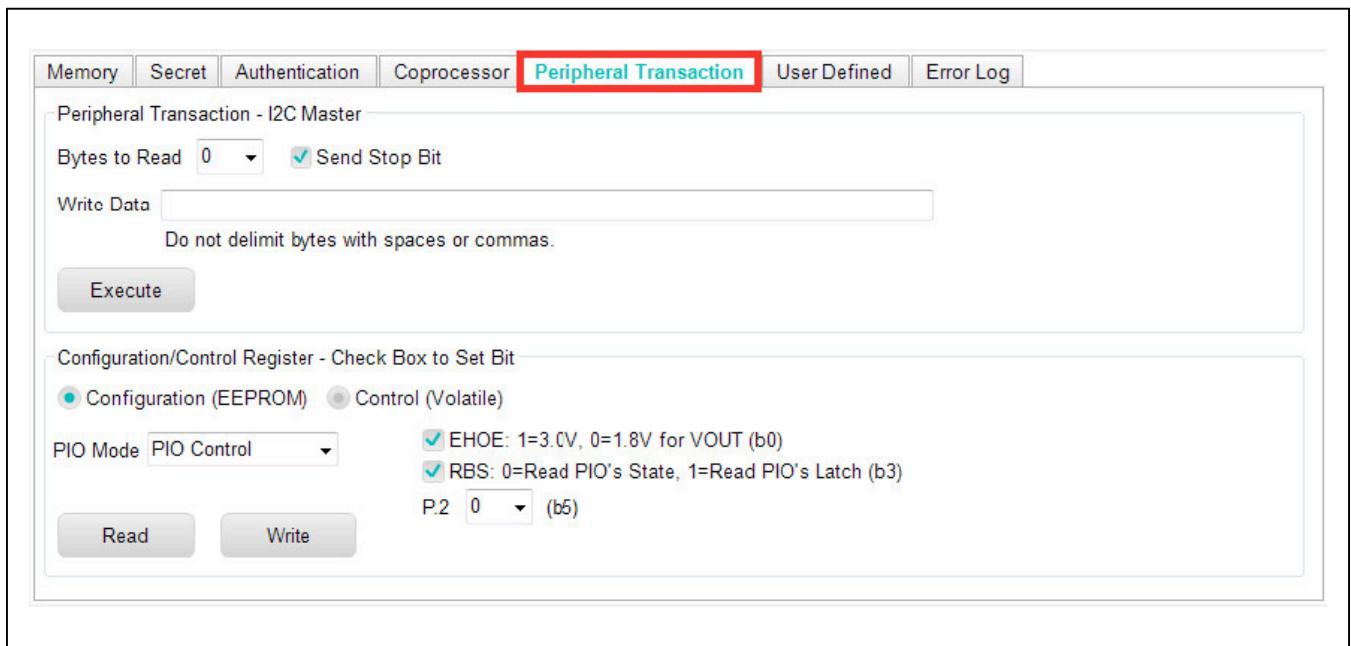

Figure 41. Peripheral Transaction Tab
- 4) Click on the **Peripheral Transaction** tab (Figure 41)